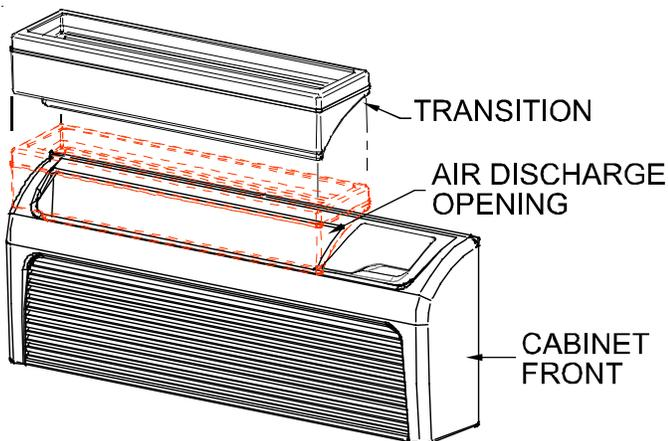

Figure 2
4. Place transition in air discharge opening of cabinet front (Figure 2).